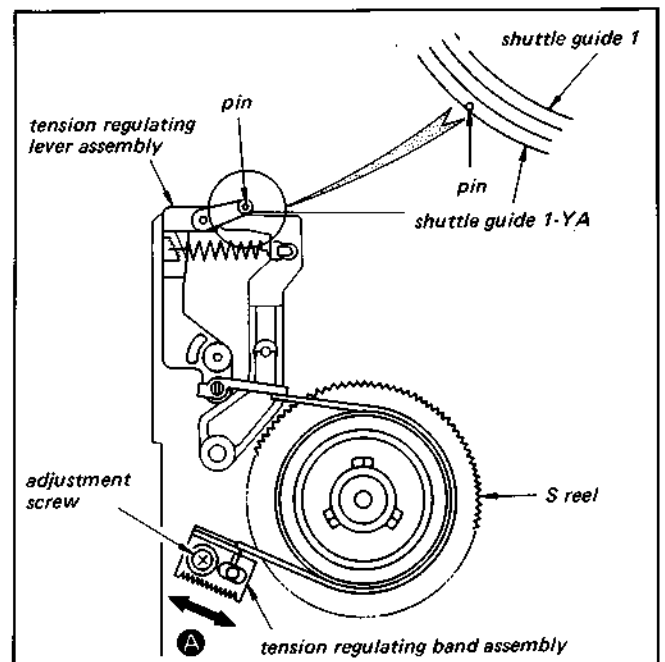

Fig. 3-30. Adjustment of the position of the tension regulating lever
- 2) Loosen the adjustment spring until the tape guide pin of the tension regulating lever assembly is positioned to the outside of the outer circumference of shuttle guide 1-YA, as shown in Fig. 3-30. Then adjust by moving the tension regulating band assembly in the direction of arrow A.